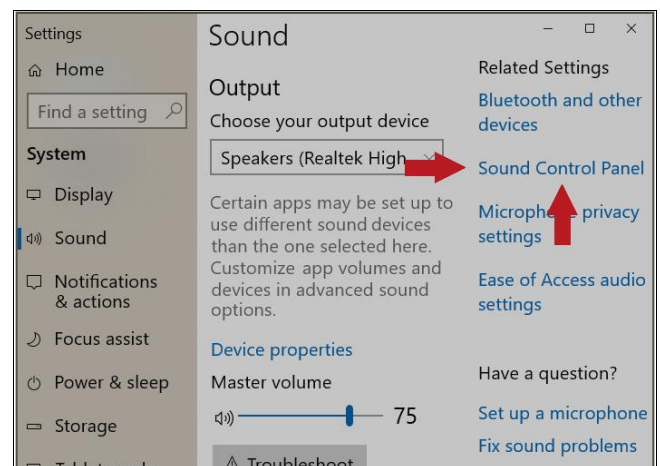

Figure 4 - Settings window
- In the "Settings" window that opens, click the "Sound Control Panel" link in the upper right corner of the window as shown below in Figure 4.